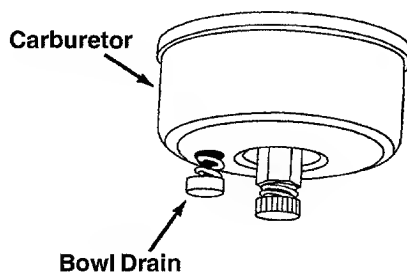

FIGURE 27
- Drain carburetor by pressing upward on bowl drain, located below the carburetor cover. See figure 27.